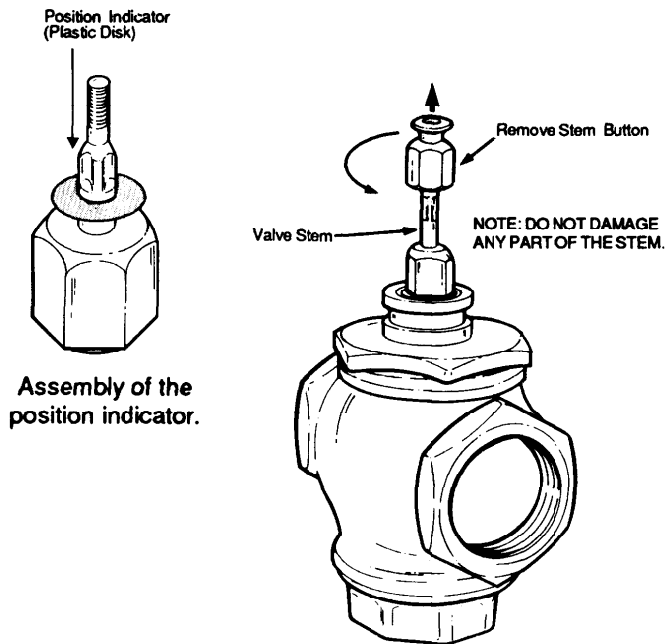

FIG. 3 -- PREPARATION FOR VALVE ASSEMBLY.
3. Remove the stem button (Fig. 3) from the valve stem. Save the set screw inside the stem button for later installation. The button itself is not needed.
4. Slide the position indicator (plastic disk or rubber O-ring) over the valve stem. (See inset, Fig. 3) Indicator will self-align to the marking on the yoke after one complete operating cycle.